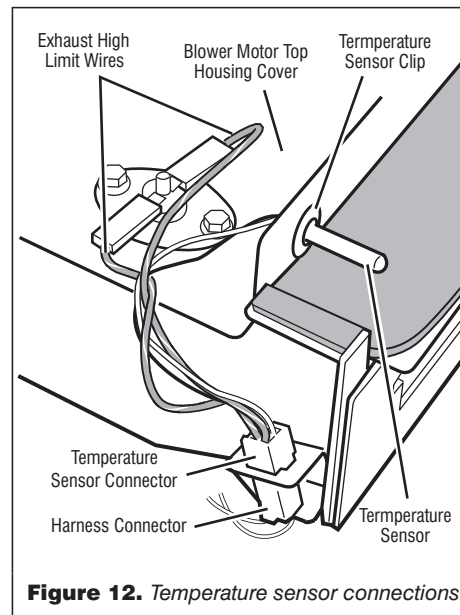

Figure 12. Temperature sensor connections.
- b) Disconnect the two red-silver wires from the exhaust high limit manual reset terminals. See figure 12.
- a) Unlatch and disconnect the 4-pin harness connector from the temperature sensor connector. See figure 12.